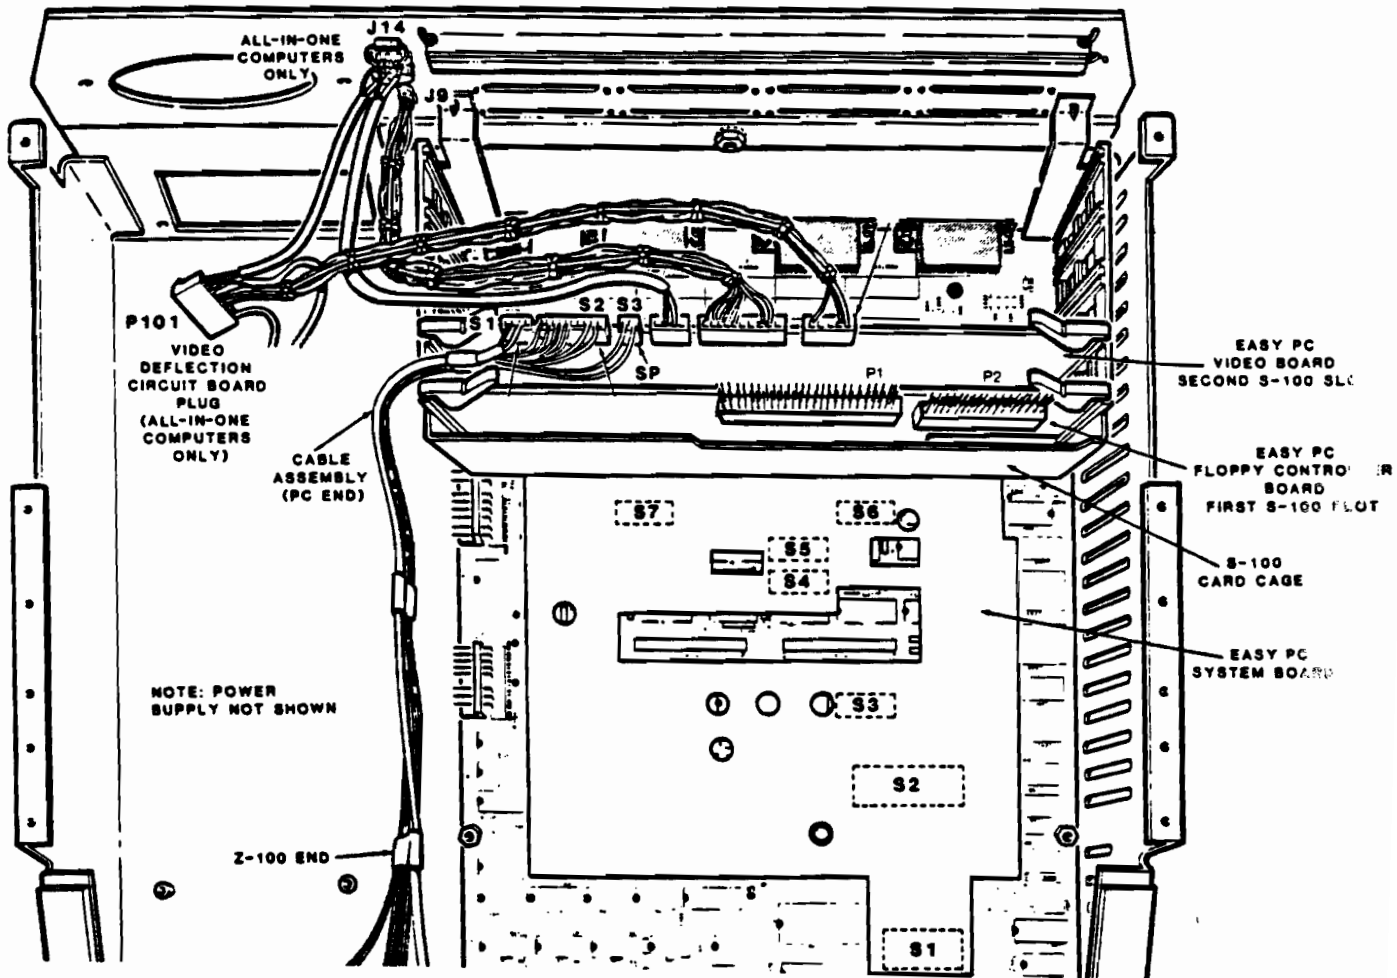

Figure 17
1. Insert the EasyPC Floppy Disk Controller board into the first S-100 slot on the motherboard (See figure 17 on page 24).